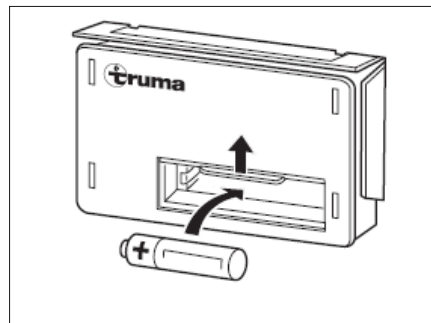

Fig. 107 Changing the batteries
- Slide the cover of the battery compartment at the automatic ignition (Fig. 107) upwards.
- Insert a new battery of the same type into the battery compartment of the automatic ignition, observing the correct polarity (+/-) (Fig. 107). Use only temperature-resistant (+70 °C) and leak-proof Mignon batteries.